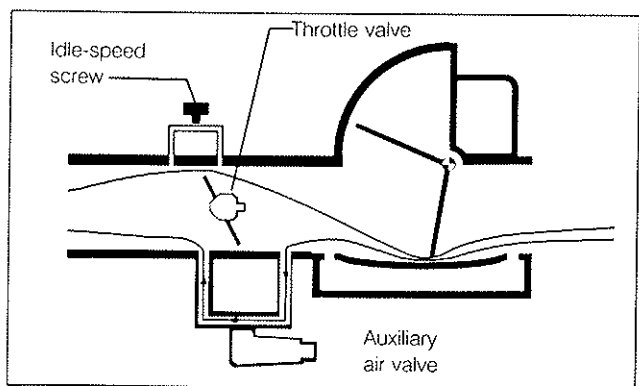

Fig. 2-38. Auxiliary air valve bypasses closed throttle when cold.
**Auxiliary Air Valve.** The auxiliary air valve helps the engine overcome the mechanical drag of a cold engine by adding additional air flow as shown in Fig. 2-38. It does this without racing the engine, as is common on engines with a fast-idle cam. Usually located on top of the cylinder head or valve cover, the auxiliary air valve can also be on the block because it is influenced by engine temperature. Look for it to bypass the throttle body with an auxiliary passage of air at barometric (atmospheric) pressure to the intake manifold at reduced manifold pressure. It is this pressure difference that causes the air flow when the valve is open.